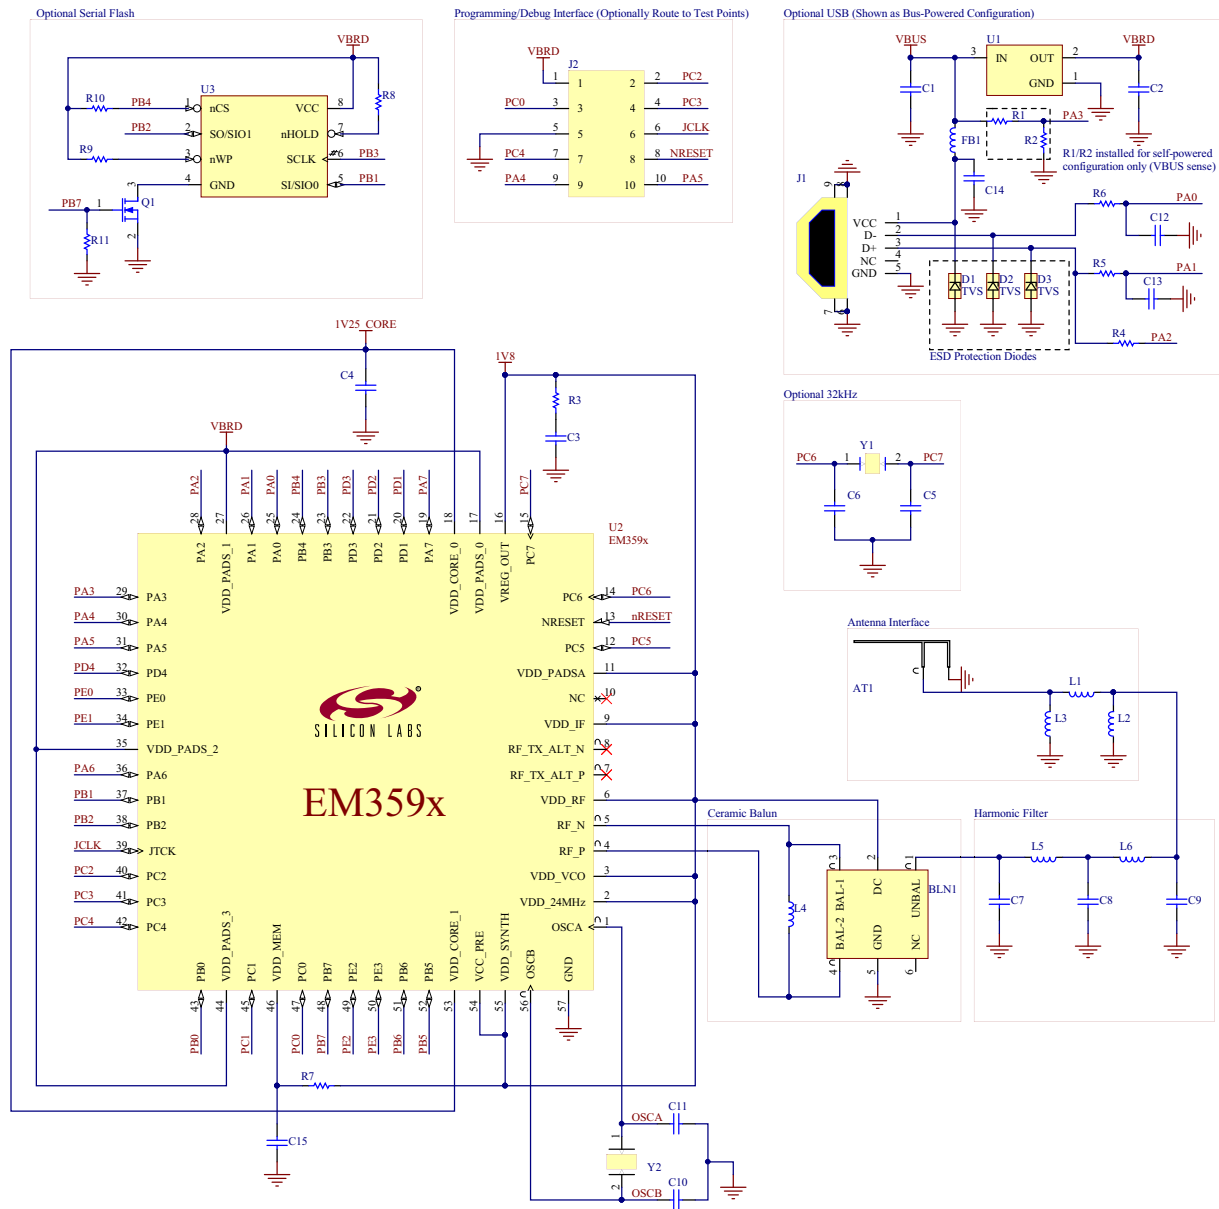

Figure 2.1. Typical Application Circuit
Figure 2.1 illustrates the typical application circuit.
**Note:** The circuit shown in Figure 2.1 is for example purposes only. For a complete reference design, please download one of the latest Ember Hardware Reference Designs from the Silicon Labs website ([www.silabs.com/zigbee-support](http://www.silabs.com/zigbee-support)).
Table 2.1. Bill of Materials for Figure 2.1
**Table 2.1. Bill of Materials for Figure 2.1**